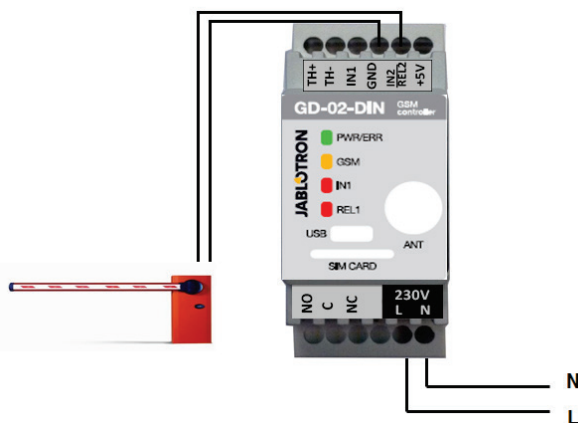

Figure 2: GD-02-DIN as a barrier controller.
- The application requires a contact to be connected to the REL2 output / GND and to the low voltage input of a controlled gate (Figure 2).